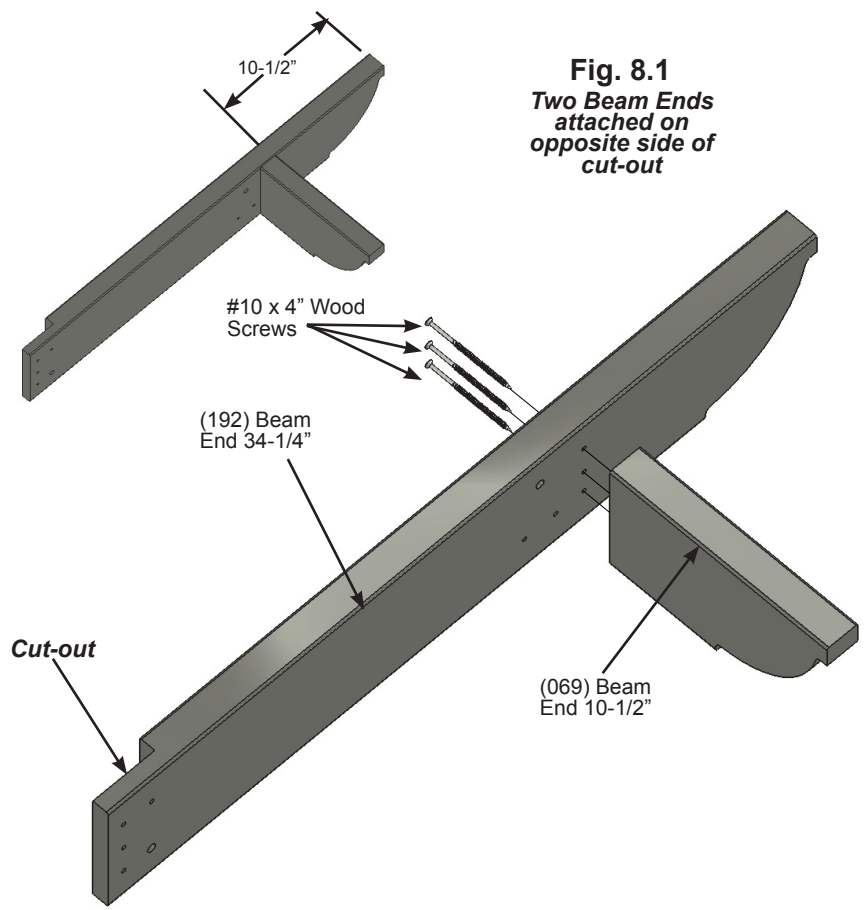

Fig. 8.1
A: On a flat and level surface attach one (069) Beam End 10-1/2" to (192) Beam End 34-1/4" with three #10 x 4" Wood Screws as shown in fig. 8.1.
B: Repeat Step A three more times so you have four assemblies. Note that two of the Beam Ends should be on the same side as the cut out and two should be on the opposite side. (fig. 8.1 and 8.2)